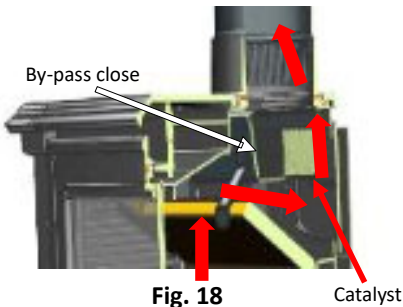

Fig. 18
5. When the fire is well established, slide the Burn Type Lever to the top for normal operation with wood ("A"). Then adjust the Burn Rate Knob to the desired heat output, either manually or with the remote control. If you have the TruHybrid System, close the by-pass to allow the flue gases pass through the catalyst (Fig. 18) to achieve the maximum efficiency of the stove. Protect your hands for such an operation. In addition, if you have an optional draft control (page 7), you can also regulate combustion by operating this control.